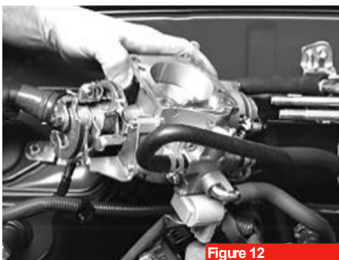

Figure 12
TIP: The coolant hoses have flanges (see arrows figure 12). The vacuum hoses do not.
15. Remove the throttle body with attached coolant hoses and cruise control cable (if equipped) and set to the passenger's side (figure 12).